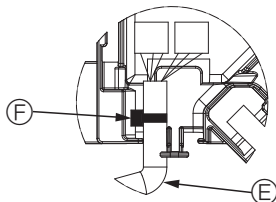

Fig. 5-11
- Place the band securing the panel vane motor wire in the connector box as shown in the diagram. (Fig. 5-11)